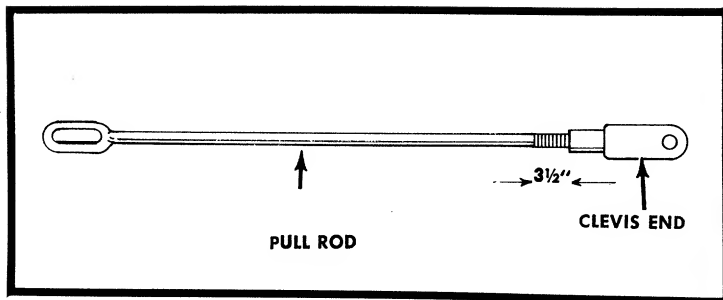

FIGURE 4. PULL RODS
Step 1. Adjust the clevis end on both the right and left sides of the tractor so that 3½ inches of threads show. See Figure 4.